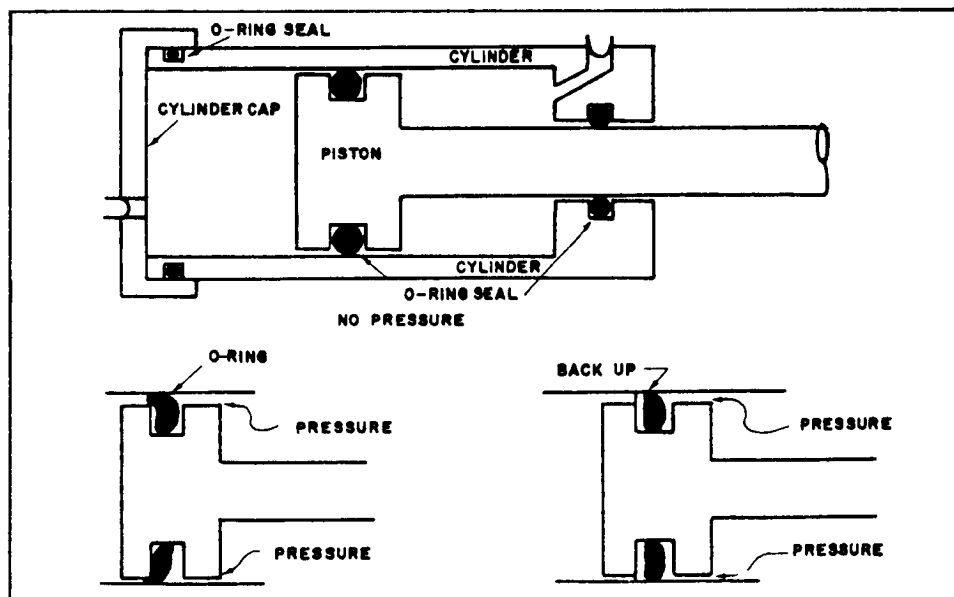

Figure 9-10. O-ring seals and grooves.
**Lubrication of Pneumatic Seals.** Lubrication of pneumatic seals is more difficult to control than lubrication of hydraulic seals. Pressurized air from the system does not lubricate the seals as the hydraulic fluid does. Actually, the air dries out the seals and any lubricant that may be on them. To prevent this from happening, use MIL-G-4343 grease for pneumatic systems. This grease has qualities that are better suited for pneumatic systems; it should not be substituted unless specifically stated in the technical order. This grease will not harden and jam solenoids of valves and orifices when it gets cold. Applying the grease to a pneumatic unit is different from applying grease to a hydraulic component. For example, on a pneumatic actuating cylinder, the O-ring seals and seal grooves (Figure 9-10) should be packed with pneumatic grease. The felt wiper should also be thoroughly impregnated with the grease. After the unit is assembled and greased, it should be operated through several complete cycles to spread the grease over all working surfaces. This may be the only lubrication this unit may receive for years to come, so be sure to grease it properly.